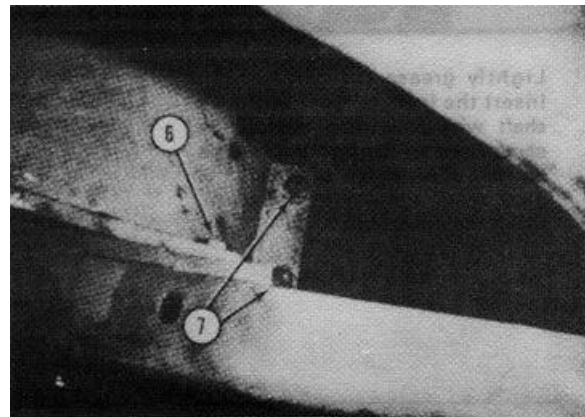

FIGURE 23
5. Figure 23 Remove two cap screws (6), one each side, holding Isolator cover half to roller frame. Remove four cap screws (7), two each side, holding the upper and lower cover halves together, then remove upper cover half
16. Follow step 5 and reference figure 23.